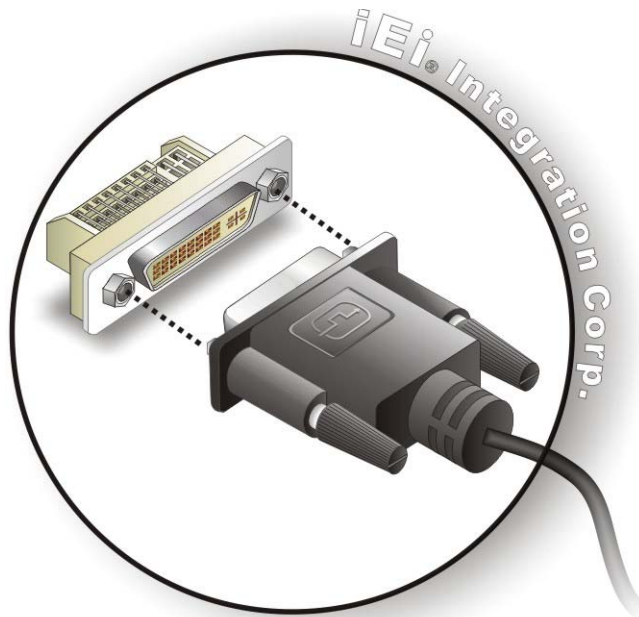

Figure 4-17: DVI-I Connection
Step 3: Insert the DVI-I connector Once the connectors are properly aligned with the male connector, insert the male connector from the digital display device into the female connector on the IMBA-Q770. See **Figure 4-17**.